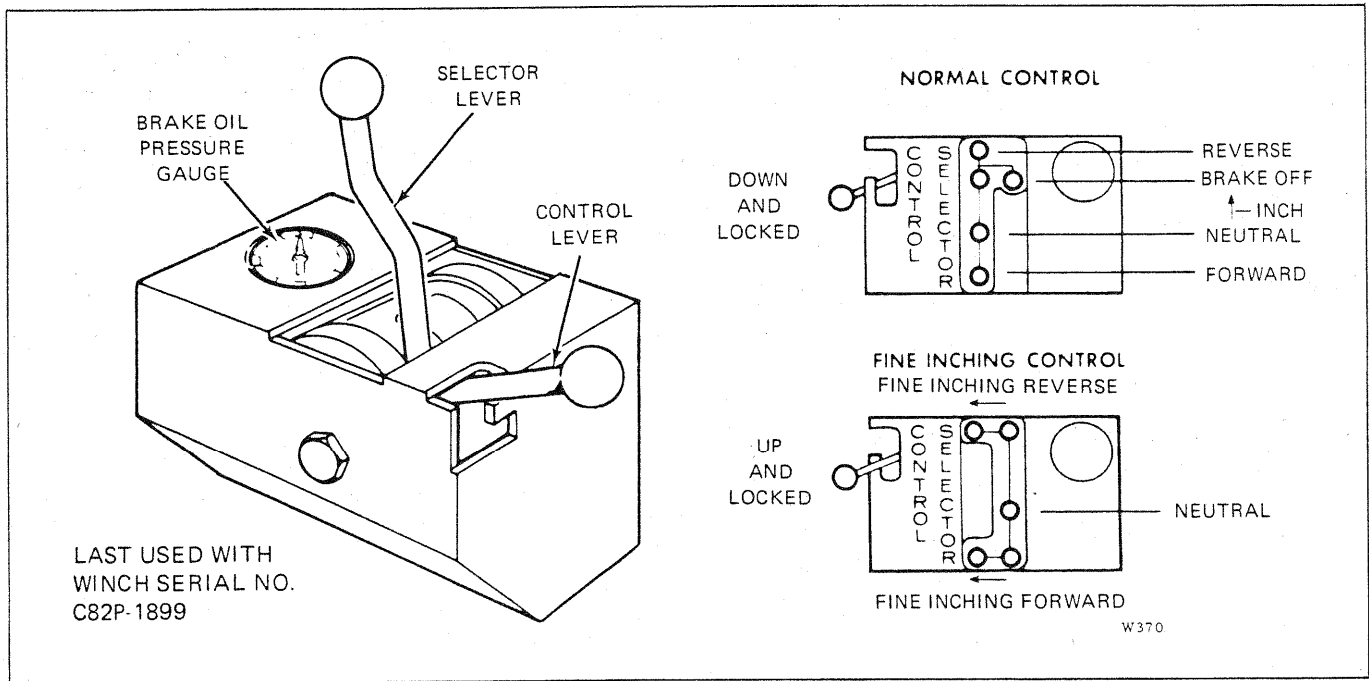

FIGURE 2-2. OPERATING CONTROLS, EARLY PRODUCTION POWER CONTROLLED WINCH
2-15. EARLY PRODUCTION HANDLING GEAR. (See Figure 2-2.) There are two different shift patterns that can be selected for winch operation. These are Normal Control and Fine Inching Control. The Normal Control shift pattern should be used for routine or normal operation encountered in logging and heavy construction. The Fine Inching Control should be used in: (1) Pipelining for positioning pipe and lowering backhoes, (2) Oil field work in rigging wells, towing and leveling derricks, and placing pipe, (3) Mining for towing control stations and matching pipe flanges, (4) General Construction for various handling, raising, lowering, towing, yo-yo operation and rescue work. Operating procedures for Normal Control and Fine Inching Control are given in paragraphs 2-16 and 2-17.